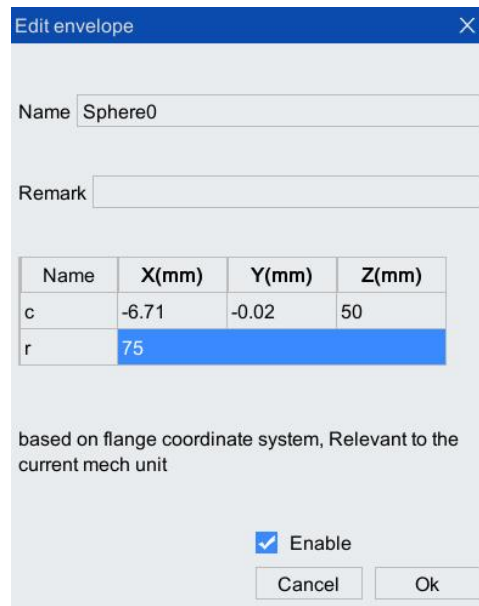

Figure 6-73 Editing interface of tool envelope ball "sphere0"
- Step1. Setting of tool envelope. First, set a tool envelope ball named "sphere0" to the tool. The radius of the tool envelope ball is 75mm. For details about center of envelope ball, please refer to Figure 6-73.